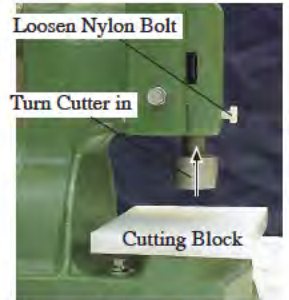

Figure 6. Install Cutter
2. Lift the Moving Head to the top position by rotating the Handle counterclockwise. Loosen the Nylon Bolt on the Moving Head, thread the cutter completely into the Moving Head as shown in Figure 6. Lay the Cutting Board on the press base.